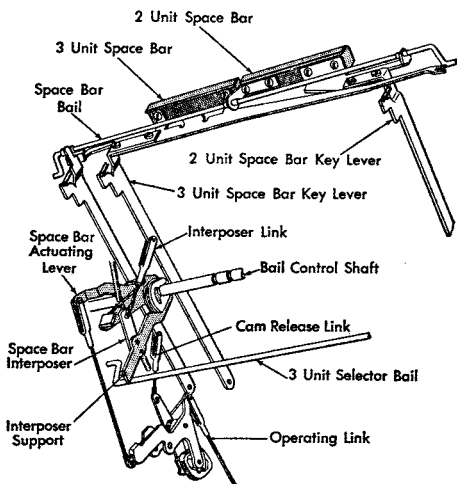

Figure 30. Spacebars
2. CAM RELEASE LINK. Adjust so that the cam will be released when the keylever has completed two-thirds to three-fourths of its downward travel (Figure 30).
5. **OPERATING LINK.** Adjust so that just before the spacebar cam reaches its high point, when rotated by hand, it will trip the escapement pawls out of the escapement rack (Figure 30). This adjustment should be checked while holding the 3-unit spacebar depressed. When the operating link is properly adjusted the interposers will move about $\frac{1}{64}$ " farther forward after the last escapement pawl has been tripped.